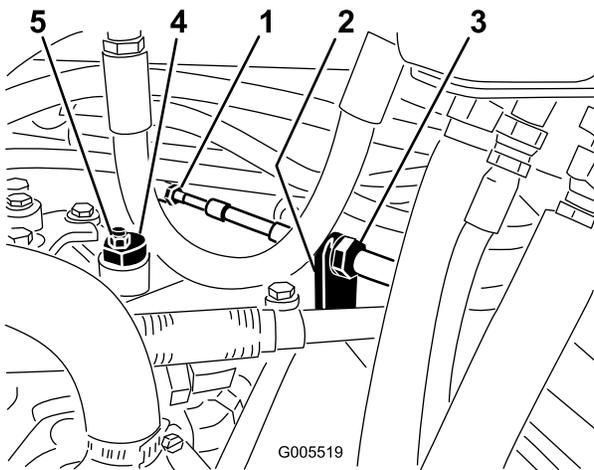

Figure 52
- A. Loosen both jam nuts securing the traction control cable to the bulkhead on the hydrostat (Figure 52). Make sure the jam nuts are loosened equally and sufficiently to allow adjustment.
**Note:** Loosen the nut securing the eccentric to the top of the hydrostat (Figure 52).
- C. Rotate the eccentric until creep does not occur in either direction. When the wheel stops rotating, tighten the nut locking the eccentric and the adjustment (Figure 52). Verify the adjustment with the throttle in the Slow and Fast position.
- D. From each side of the bulkhead, tighten the locknuts evenly, securing the traction cable to the bulkhead (Figure 52). Do not twist the cable.